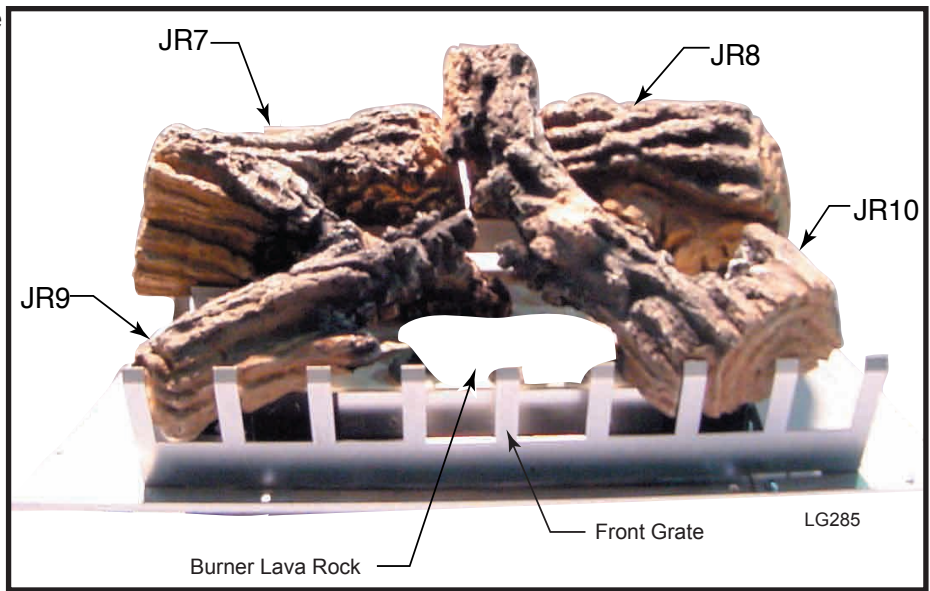

Fig. 22 LHED20 and LHER20 log and lava rock placement.
LHECDV20, LHERDV20 (Fig. 22)
- b. Place rear right log (JR8). Use the log's bottom holes to locate it onto the two (2) pin studs of the rear log bracket on the right.
- e. Place the burner lava rock on the front area of the burner housing. (Fig. 22)